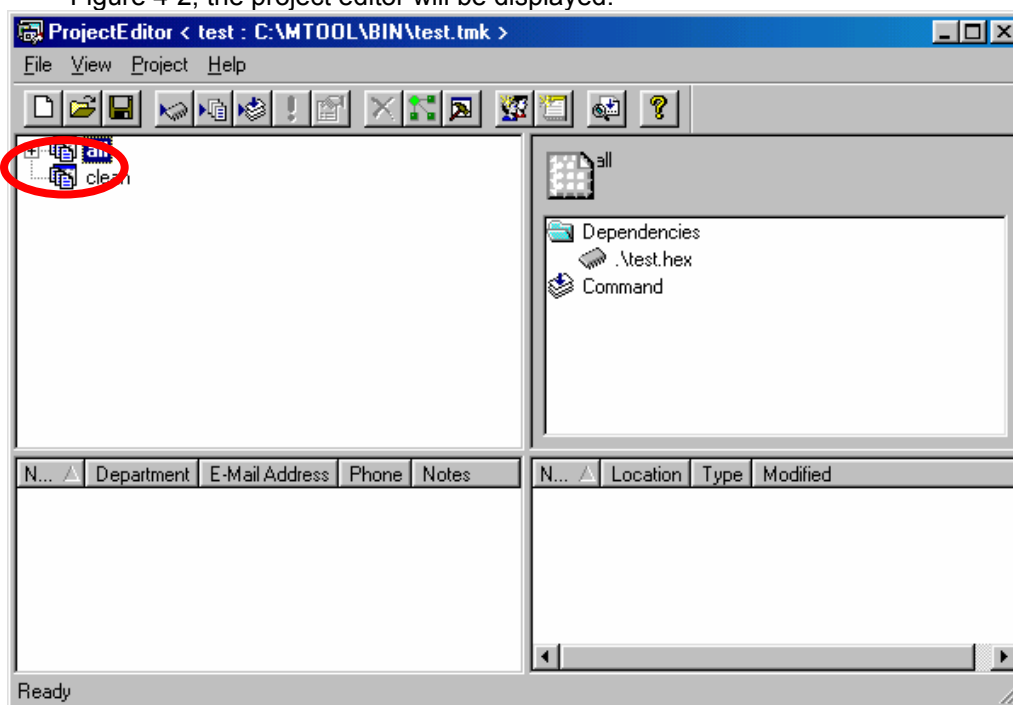

Figure 4-7 Project Editor
10)When double-clicking “all” marked with a red circle in Figure 4-7, “Sample hex” will be displayed. Add a source program. Select “Project” - “Edit Item” - “Add File” while selecting “Sample.hex”